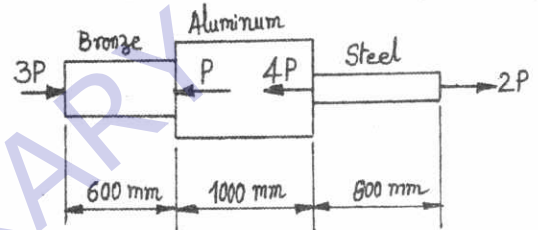

Fig.Q1(b)
- b. A compound bar consisting of Bronze, Aluminium and Steel segments is loaded axially as shown in Fig.Q1(b). Determine the maximum allowable value of ‘P’, if the change in length of the bar is not to exceed 2mm and the working stresses in each material of the bar, indicated in table below is not to be exceeded. (15 Marks)